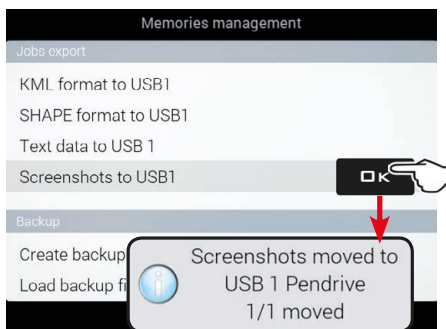

Fig. 299
- Select **Screenshots to USB 1** (Fig. 299) and press **OK**.